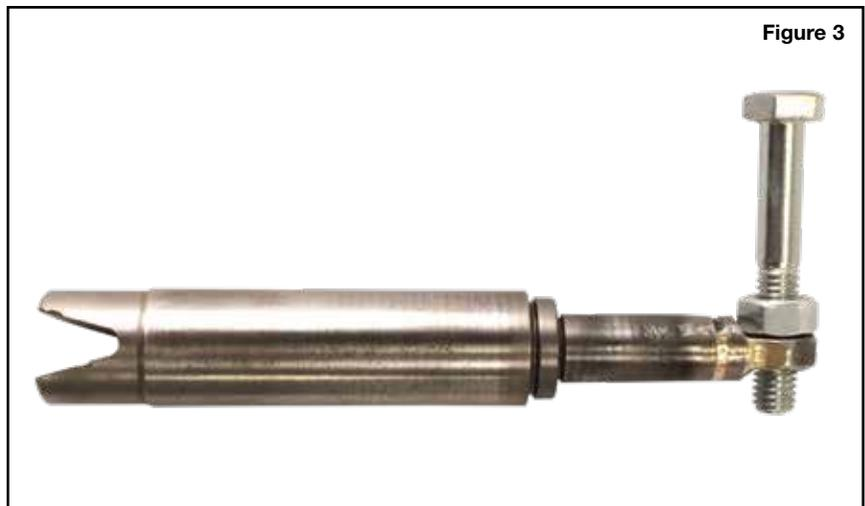

Figure 3
- b. Some brands of aftermarket cases have been found where the pin-bore and seal-bore are not concentric on the same center line by as much as .050". It is possible to fabricate a simple tool for screening cases before servo installation by welding a small nut onto the end of a spare servo pin (**Figure 3**).